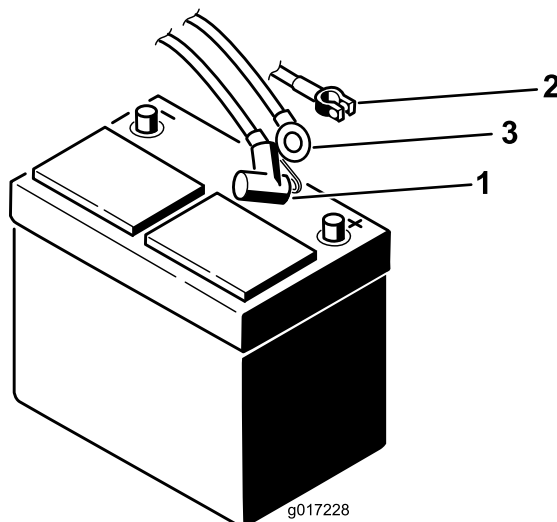

Figure 11
6. Remove the nut from the positive battery clamp (Figure 11).
7. Insert the positive wire from the lift and the ring terminal end of the red wire from the front harness onto the cable clamp screw and loosely secure it with the nut removed (Figure 11).